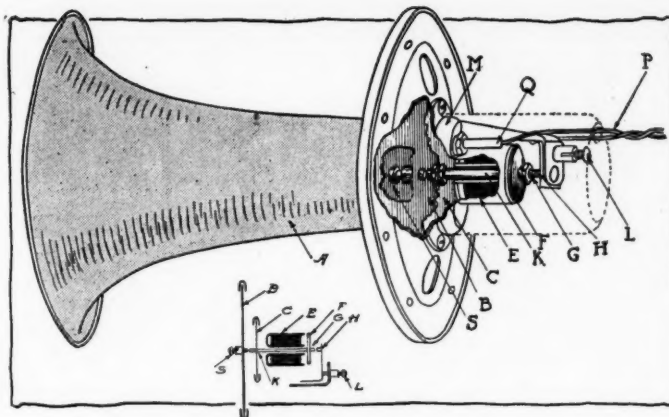

Fig. 3—Repello electric horn
**Repello Electric Horn**—The Premier Electric Horn Co., Chicago, makes the Repello horn, Fig. 3. This device operates on the buzzer principle, consisting of a solenoid coil, which is energized when a current passes through it, and consequently attracts an armature, the shaft of which has at one end a striking point hitting the diaphragm. When the armature is moved, the current energizing the coil is shut off and the armature shaft is returned to its original position by the action of a diaphragm-shaped spring which is in parallel with the vibrating diaphragm and held in a stationary frame at its rim. Fig. 3 shows the coil E and its armature F, the contact G-H which is broken when the armature is attracted by the coil, the current leads P and Q and the adjusting screw L which serves for varying the distance between G and H and the consequent extent of the diaphragm vibration. The sound-producing diaphragm is shown at B, while C is the auxiliary one acting as a spring for returning the armature to its original position. A stud S in the center of B prevents indentation of the latter by the recurring striking of it by the armature end. Little current consumption and prompt re-